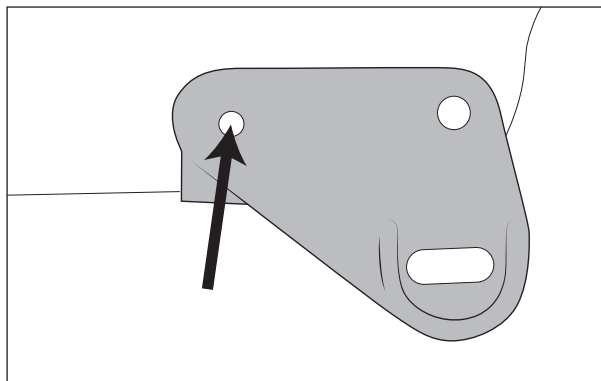

Figure 6
- A. Install forward most LCA brackets(NRMS0521 and NRMS0522) and cam centering blocks (NRMS5002) loosely with 18mm bolt pointed forward. Install chamfered edges of cam centering blocks against frame so they fully seat into pocket. Press bracket tightly against front and bottom of cross-member, then mark hole to be drilled in front face of cross-member. Remove bracket and drill 1/2" hole (fig. 6) Apply paint to the hole for rust protection.